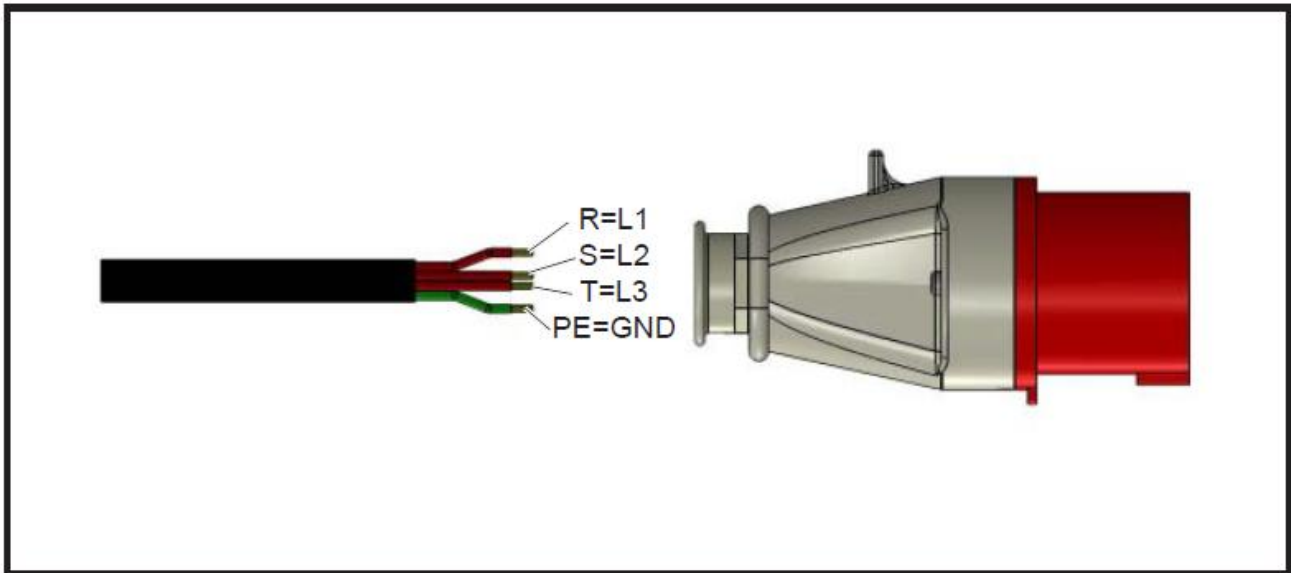

Fig. 2-10
- d) Wire the three power cables R=L1, S=L2, T=L3 and the ground wire PE=GND (fig. 2-10).